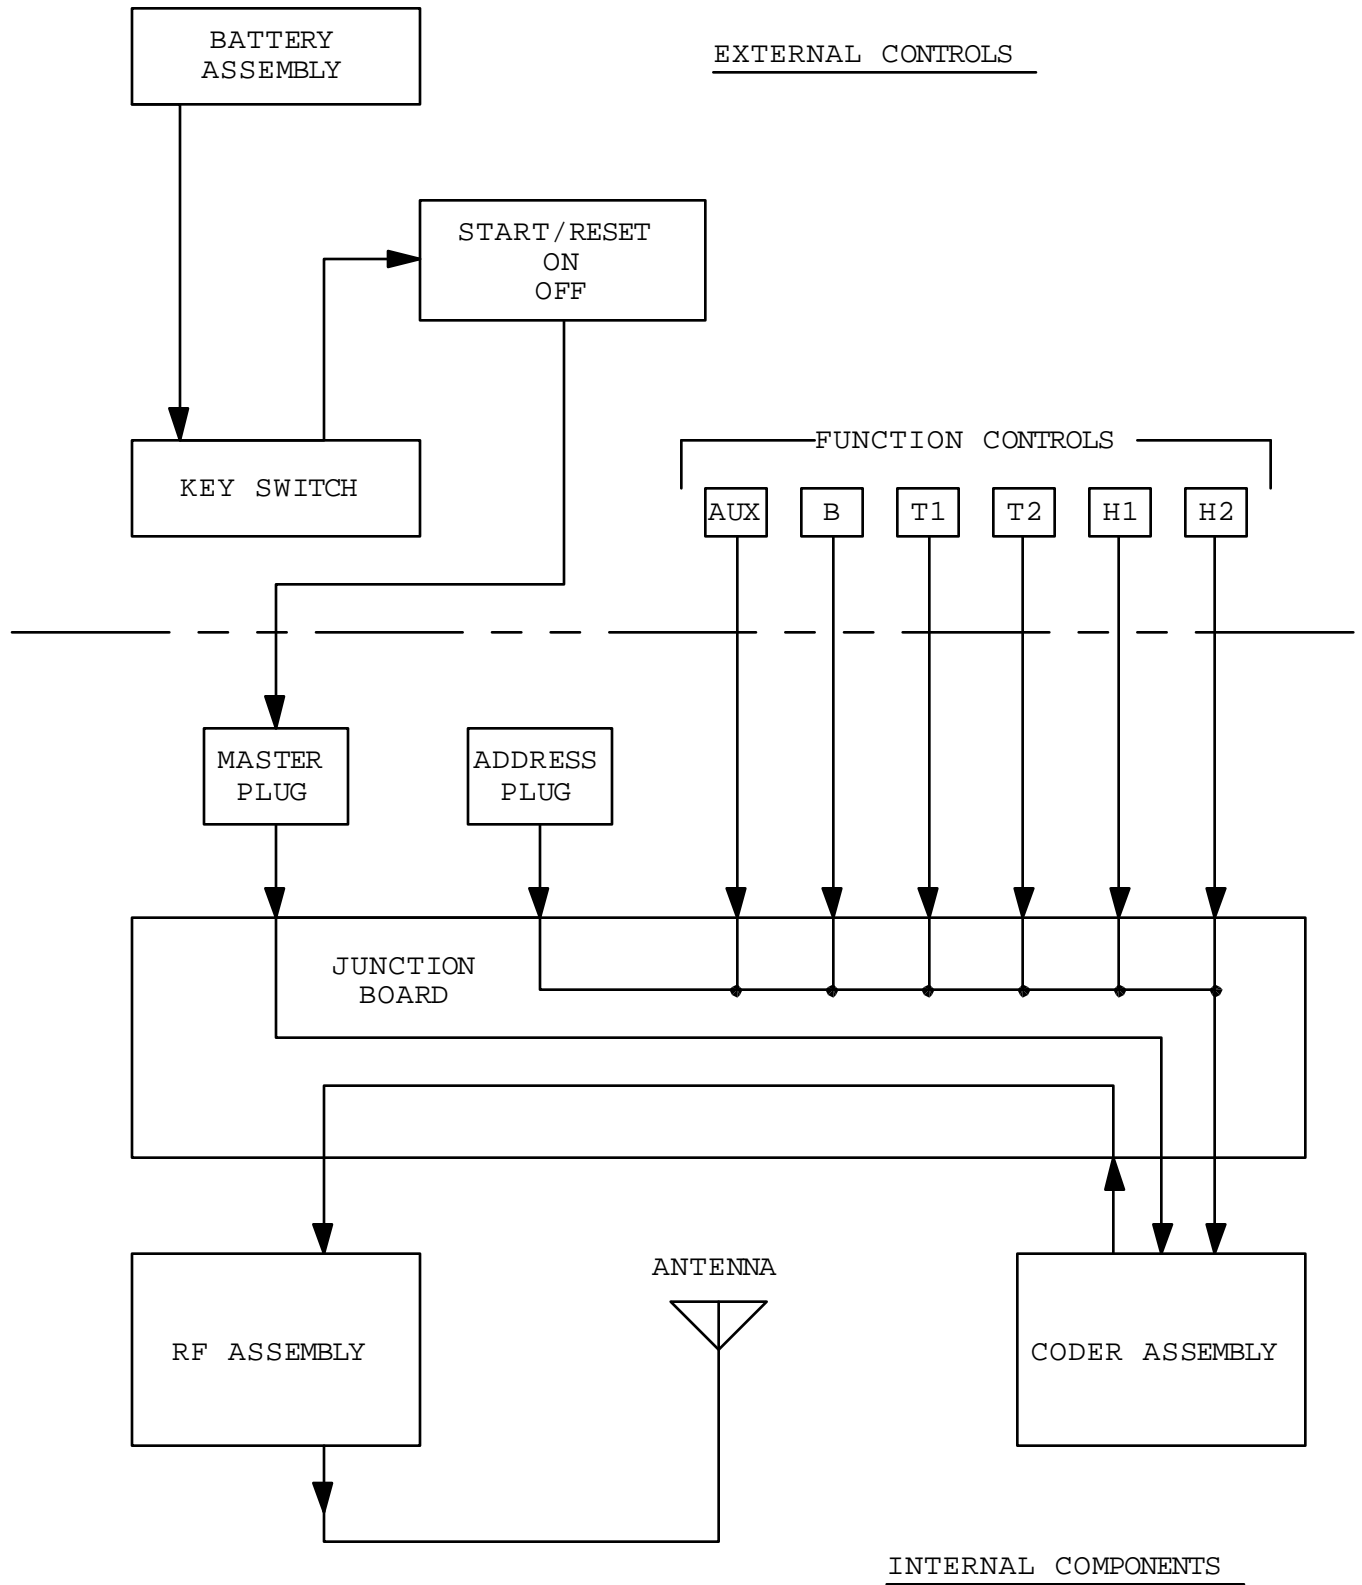

FIG. 3-1: BLOCK DIAGRAM, TRANSMITTER
A block diagram of the transmitter is shown by Fig. 3-1.
5.2.2 Transmitter - (See Block Diagram, Transmitter, Fig. 3-1, and Transmitter Components Fig. 5-1).